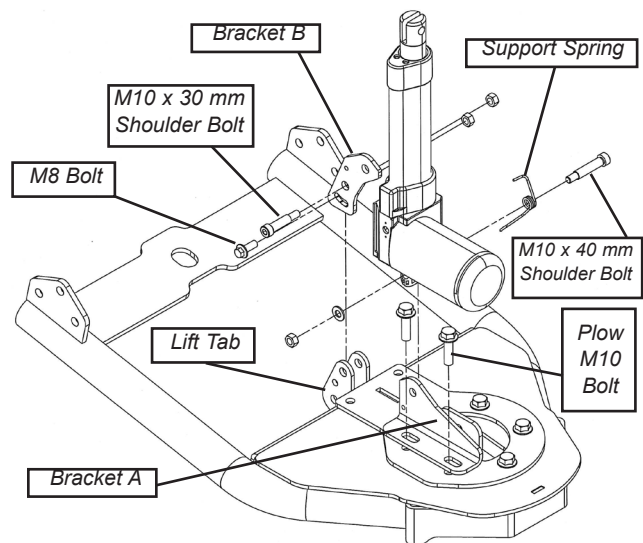

Figure 2a Install Mounting Bracket to Actuator
2. Figure 2a shows the fastener and bracket locations. The Actuator Support Spring, shown in Figure 2a, is to be installed on M10x40mm shoulder bolt. This spring is
4. Secure mounting bracket "A" to the plow base with original plow M10 bolts. See Figure 2a. Tighten fasteners to 24ft. lb. (32 N-m) with 15mm wrench and 17mm socket.